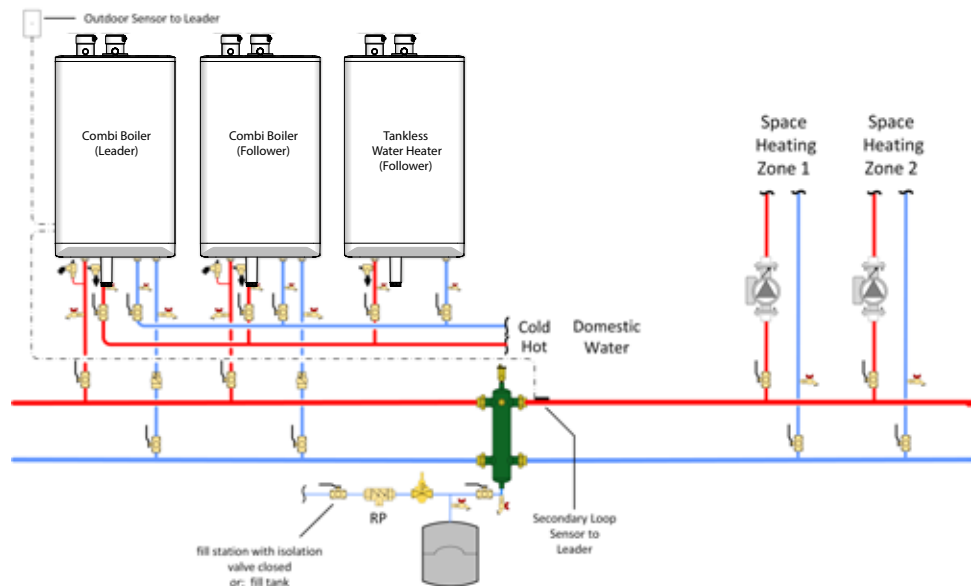

Figure 4: Typical Combi Boiler and Tankless Water Heater cascade piping – concept drawing. This drawing is only a simple schematic guide
For space heating, the cascade system should utilize an appropriately sized common boiler header and hydraulic separator to isolate cascade system water flow from the system water flow as shown in Figure 4. Reference Table 7 for minimum common boiler header sizing.
For domestic water heating, the cascade system should utilize an appropriately sized common header as shown in Figure 4. Reference Table 9 for minimum common domestic hot water header sizing.
4. **Enable cascade function (P130)** – Enable the cascade function of each unit according to the cascade system type. The cascade function of Heating Boilers can only be enabled for space heating (P130 = 2). The cascade function of Combi Boilers can be enabled for any combination of space heating / DHW (P130 = 1, 2, 3) depending on the application. A Combi Boiler will respond to any local demand not enabled for cascade, see Figure 4.